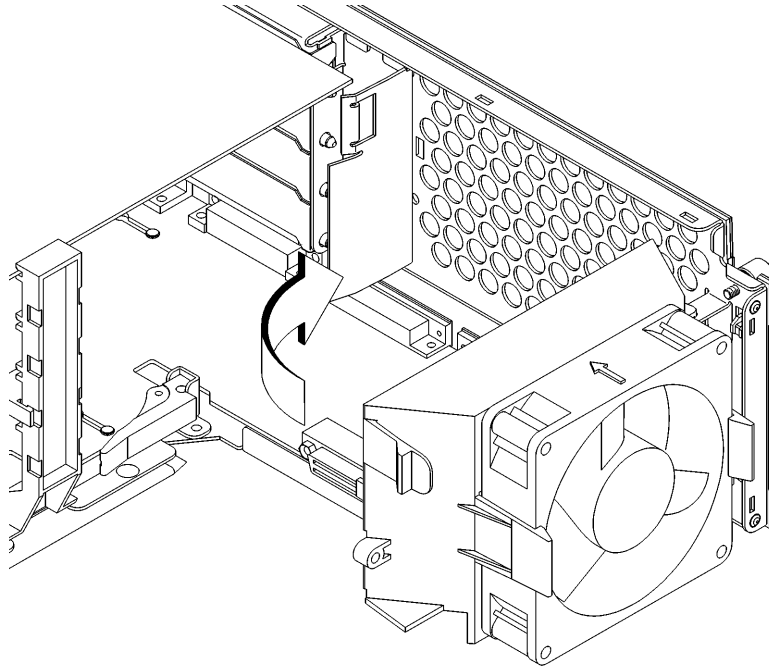

Figure 14
- 10** Rotate the fan back into place and firmly push it into the rear panel firmly until the clip snaps into place, as shown in Figure 14.